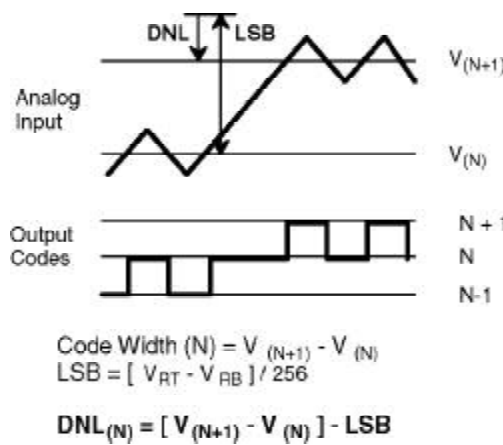
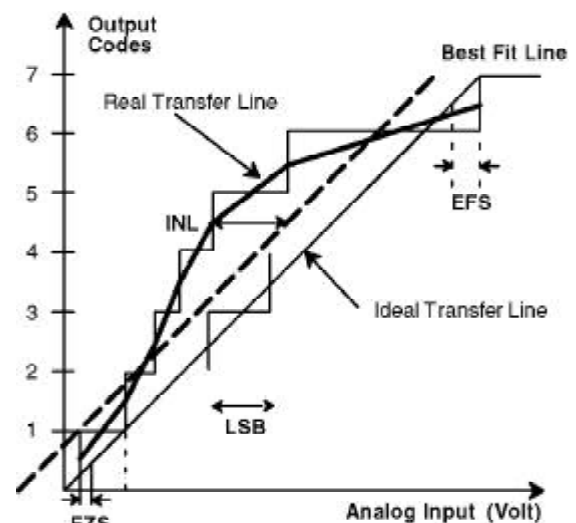

Figure 3. DNL Measurement
Figure 4. INL Error Calculation
1. The difference between the measured and the ideal code width ($V_{REF}/256$) is the DNL error (Figure 3). The INL error is the maximum distance (in LSBs) from the best fit line to any transition voltage (Figure 4). Accuracy is a function of the sampling rate (FS).